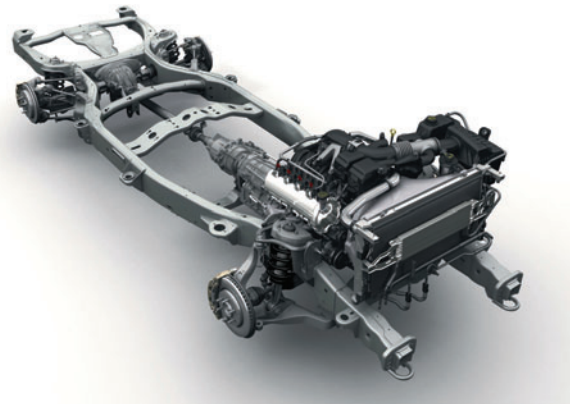

Figure 9.6 4 WD transmission layout (Source: Ford Media)
- ▶ extra drive shafts to supply drive to the extra axle (Figure 9.6).